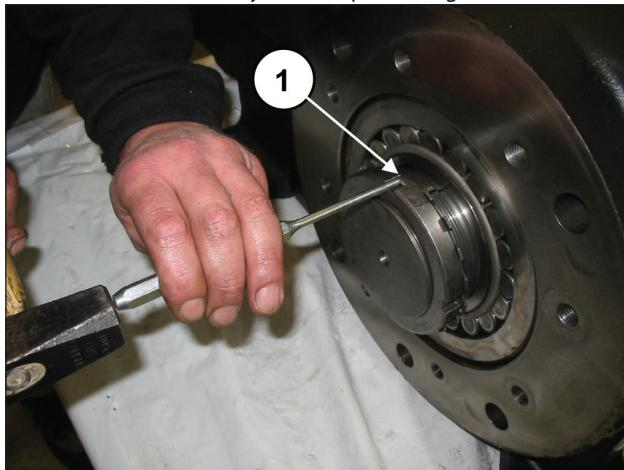

Fig. 16
Raise the tab of the safety washer (pos. ①, Fig. 16).